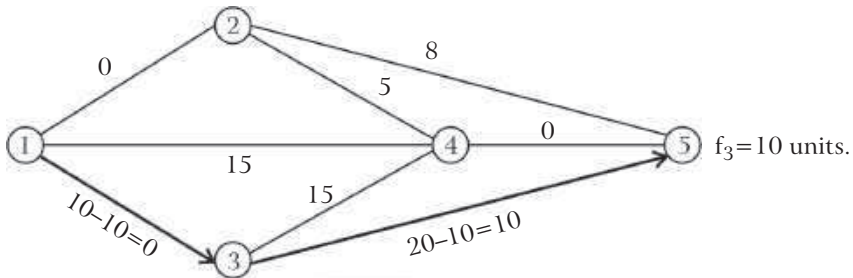

Fig. 8.31
Then proceeding as in step 1 and 2, we get the following network (residue graph) fig. 8.31 and the maximum flow in this route is $f_3 = 10$ units.
Step 5: Now from the fig. 8.31, we note that we cannot consider any other route for flow from node 1 to node 5, as the capacity of flow of at least one arc in every route is exhausted (*i.e.* current capacity reaches to zero).